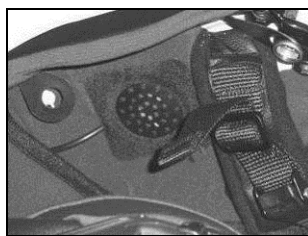

Fig. 25
- Position the right-hand side speaker in the specific cheek pad housing and secure it using the specific adhesive (Fig. 25).